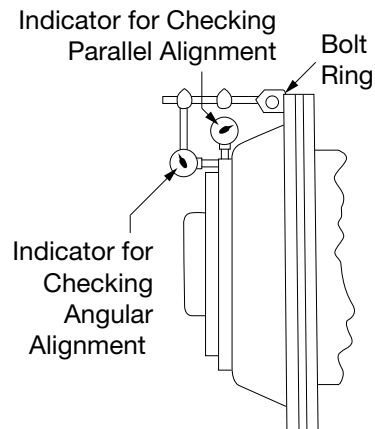

Figure 2
7. For longest Flexidyne coupling life, it is always desirable to align coupling as accurately as possible at initial installation. Check both angular and parallel alignments by mounting indicators near the O.D. of the flange, as shown in Figure 2, and rotating the shafts thru 360°. For a good installation neither reading should exceed value “E” given in Table 1. Alignment should be re-checked after any repositioning.
Check both parallel and angular alignments by mounting indicators near the OD of the flange (See Figure 2) and rotating the shafts through 360°. For a good installation neither indicator reading should exceed value "C" in Table 1. Both alignments should be rechecked after any repositioning.